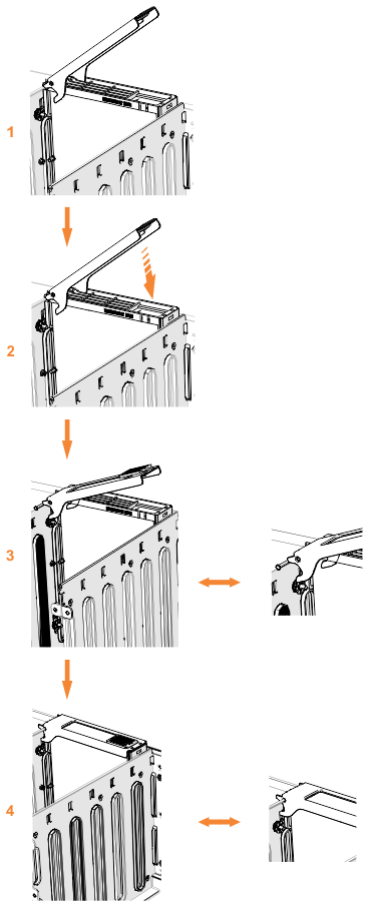

Figure 138. Replace the drive
14. Ensure that the drive handle (1 in Figure 138 on page 182) of the drive assembly is in the open (unlocked) position.
16. Lower the drive down, without pushing, until it stops and the bottom of the latch is aligned with the top of the partition. Ensure that the handle is not open more than 45 degrees from the drive carrier. (2 in Figure 138 on page 182). If the drive does not slide down easily then inform IBM remote technical support.
17. Rotate the handle down to lock the drive assembly into the chassis (3 in Figure 138 on page 182).
19. Ensure that the top toe of the latch is also fully engaged (4 in Figure 138 on page 182).